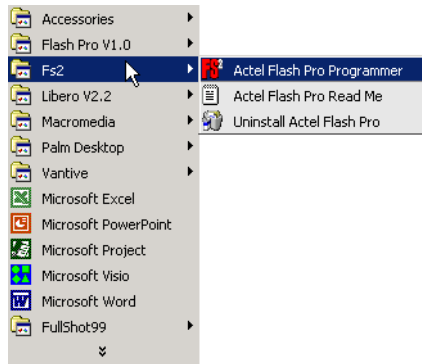

Figure 1-4. Starting Self Test
- 4. Start the Flash Pro Diagnostic software.** From the *Start* menu, point to *Programs, Fs2*, and click *Actel FlashPro Programmer*, as shown in Figure 1-4.